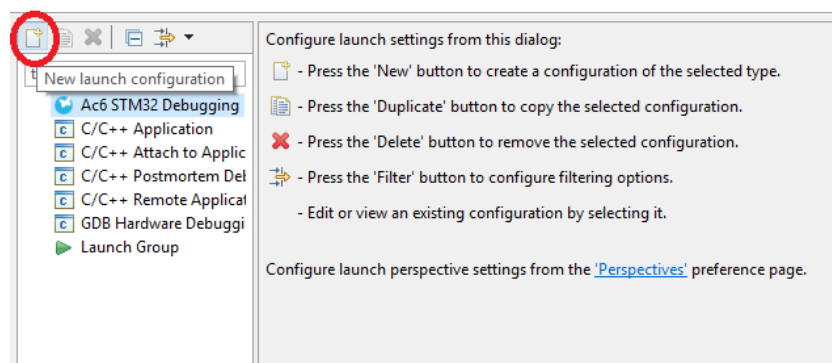

Figure 4: Creating a new Ac6 STM32 debug configuration.
2. Highlight ‘Ac6 STM32 Debugging’ and click the ‘New launch configuration’ button (highlighted in Figure 4).